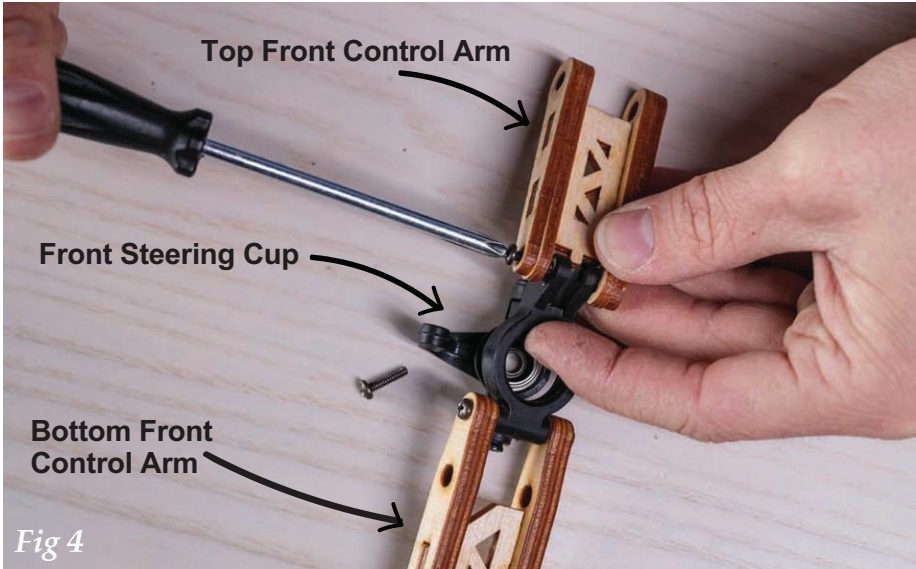

Fig 4
- 3 Find the **Front Steering Cups**. Using the **3 x 10 mm Screws** that came with them, attach a **Top Front and Bottom Front Control Arm**. Tighten screws snug, but ensure the arms can pivot easily (Fig 4). Repeat process for the second set.